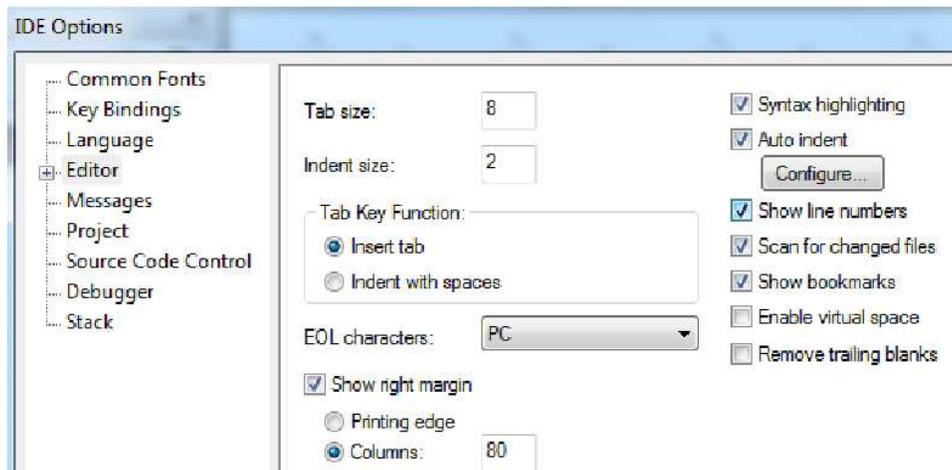

Figure 1.9: IAR integrated development environment (IDE) options.
- Click 'Tools > Options ... > Editor' and make sure you click the radio button for 'Insert Tab' under the 'Tab Key Function:' alternatives. You may want to check the 'Show line numbers' option. Then click 'OK'. If you do not check the 'Insert Tab' radio button, then eight (8) space characters will be inserted in your source file whenever you press the Tab key as opposed to just one (1) tab character. Your source file could then grow rather fast in size. The 'Show line numbers' option, although not strictly needed, could turn out to be rather useful. These alternatives are illustrated in Figure 1.9 taken as a screenshot in IAR Embedded Workbench.